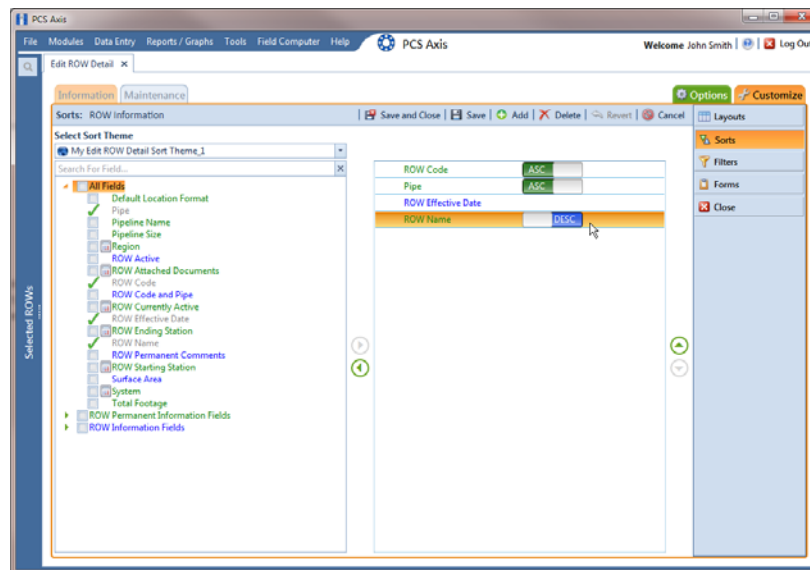

Figure 7-88. Sorts
- 10 Complete the following steps to add and remove fields in the new sorting theme as needed (Figure 7-88):